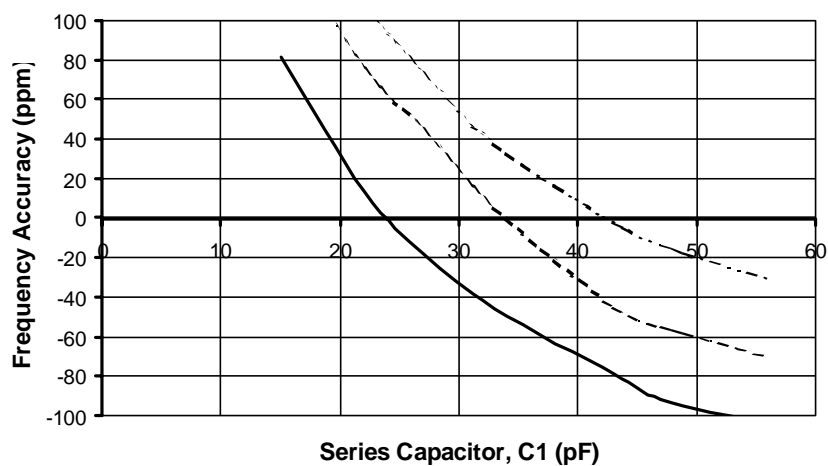

FIGURE 10 - FREQUENCY ACCURACY FOR PARALLEL CRYSTAL USING SERIES CAPACITOR C1
*Figure 10* shows frequency accuracy versus series capacitance for 19.44MHz, 16.666MHz and 15MHz crystals. As seen from this figure, a 24pF, 33pF and 43pF series capacitor is used to achieve the lowest ppm error for 19.44MHz, 16.666MHz and 15MHz respectively.